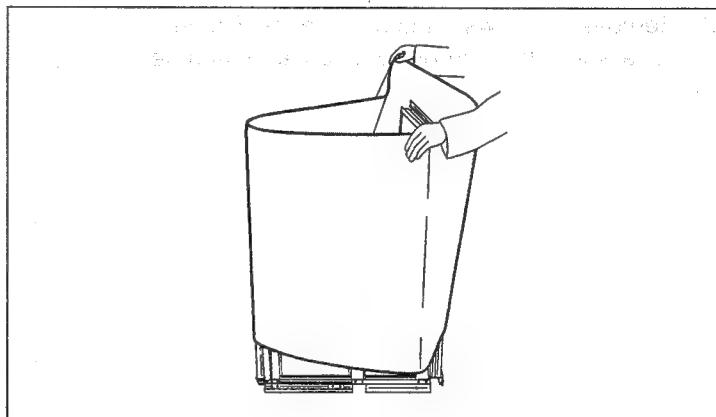

Fig. 7-12
- 9) Remove the screen (film) as shown in Fig. 7-12.